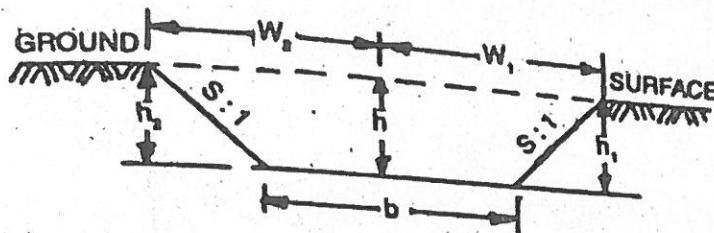

Fig. 12.2
1. Level-Section. (Fig. 12.2). In this case the ground is level transversely.